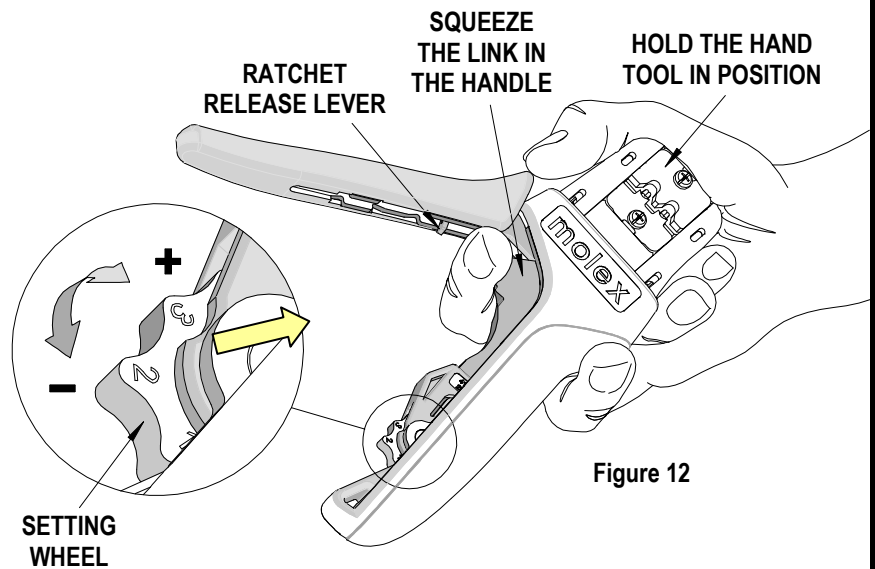

Figure 12
## How to Adjust Tool Preload (See Figure 12)
1. Hold the hand tool in the palm of your hand as shown in Figure 12. Using the index finger squeeze the link towards the top of the hand tool frame. This will release the preload adjustment wheel.